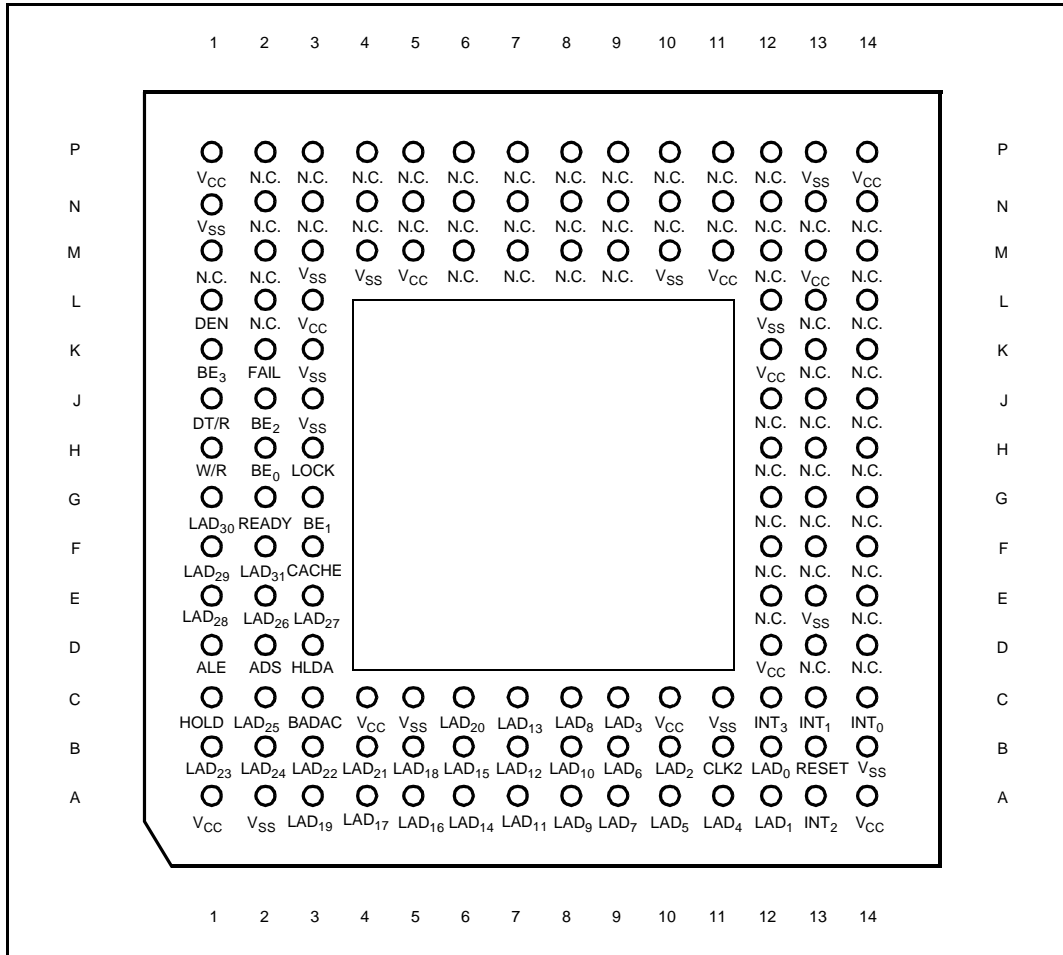
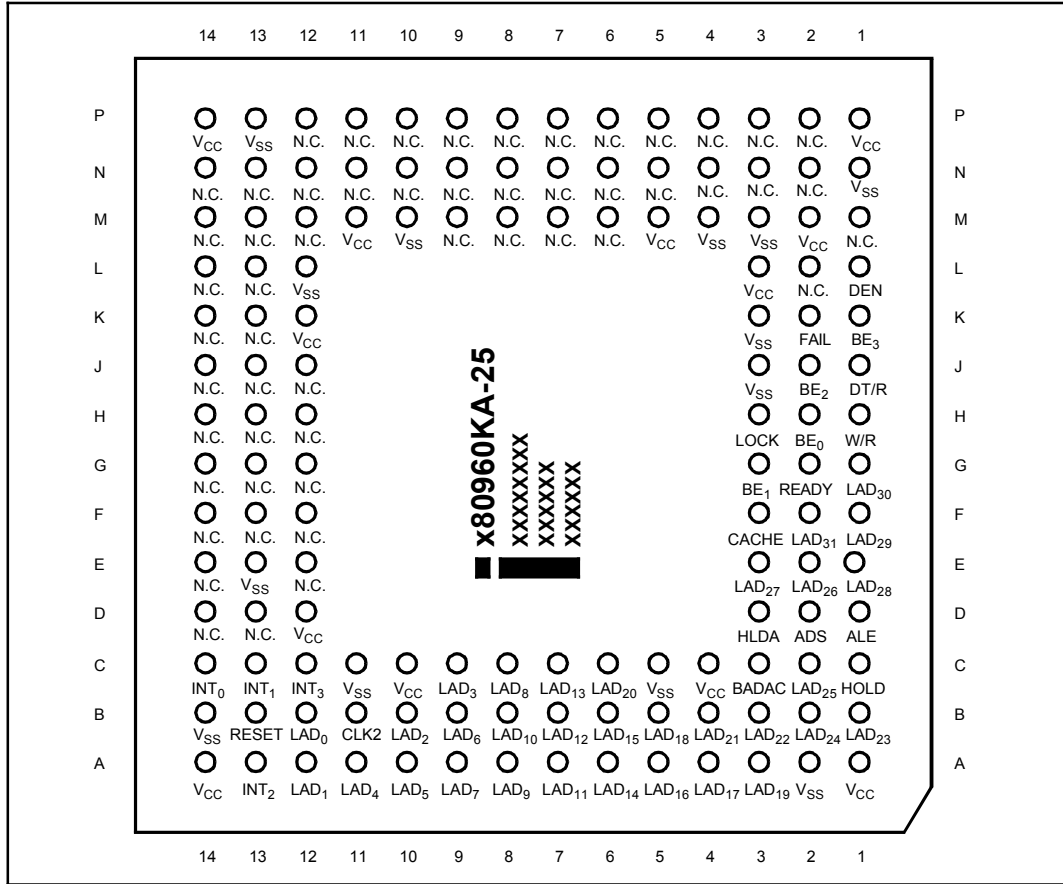
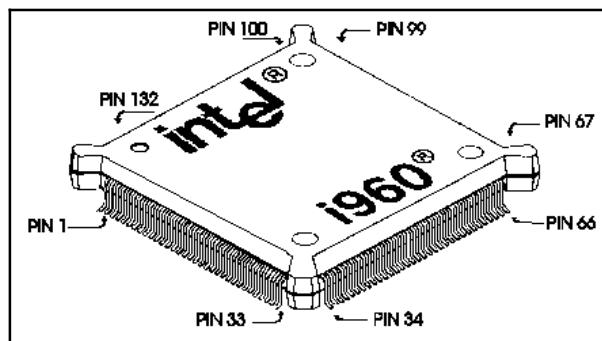

Figure 18. 80960KA PGA Pinout—View from Bottom (Pins Facing Up)
Figure 19. 80960KA PGA Pinout—View from Top (Pins Facing Down)
Figure 20. 80960KA 132-Lead Plastic Quad Flat-Pack (PQFP) Package
- 132-lead plastic quad flat pack (PQFP). This package uses fine-pitch gull wing leads arranged in a single row along the package perimeter with 0.025 inch (0.64 mm) spacing (see Figure 20).
The PGA and PQFP have different pin assignments. Figure 18 shows the view from the PGA bottom (pins facing up) and Figure 19 shows a view from the PGA top (pins facing down). Figure 20 shows the PQFP package; Figure 21 shows the PQFP pinout with signal names. Notice that the pins are numbered in order from 1 to 132 around the package perimeter. Table 9 and Table 10 list the function of each PGA pin; Table 11 and Table 12 list the function of each PQFP pin.